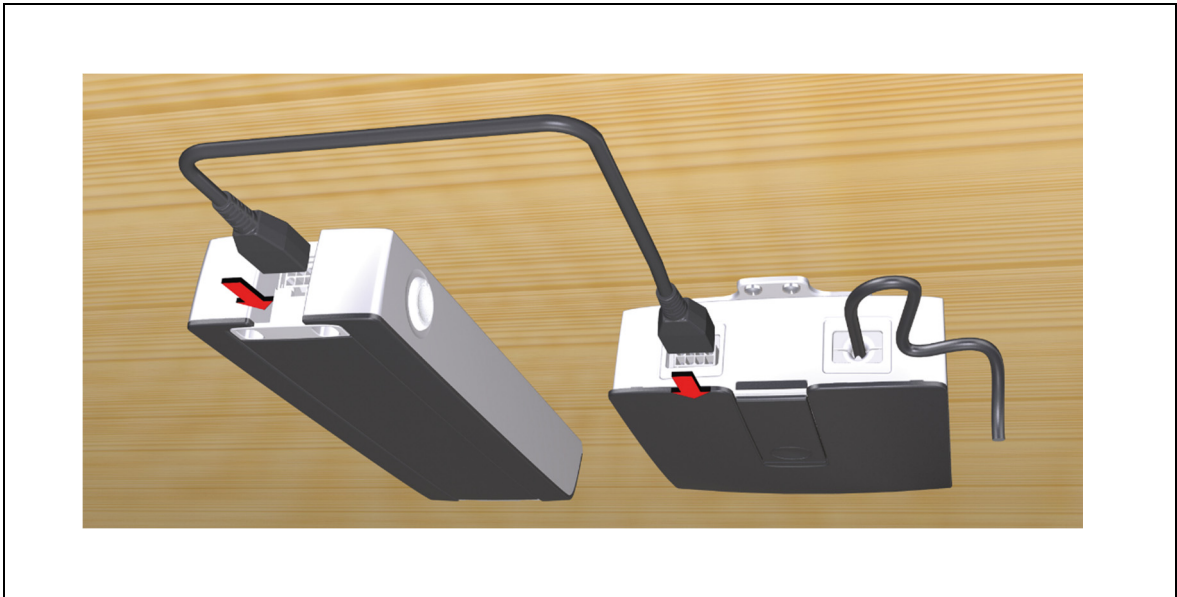

Figure 11 Example: Connecting the HE-300 SMPS POWER SUPPLY to the HE-300 CONTROL UNIT
- 1 Connect the HE-300 SMPS POWER SUPPLY to the DewertOkin control unit (e.g., the HE-300 or OKIMAT 8) as shown in Figure 11. Use the proper DewertOkin cable for this connection.